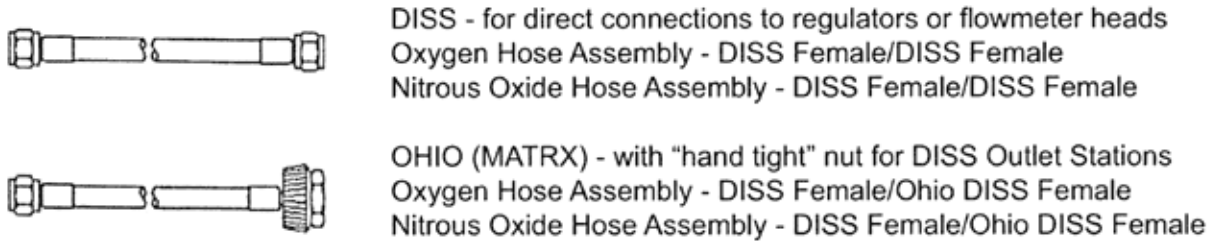

Figure 21
2. DISS to DISS hoses (oxygen hoses only shown, see fig 21).